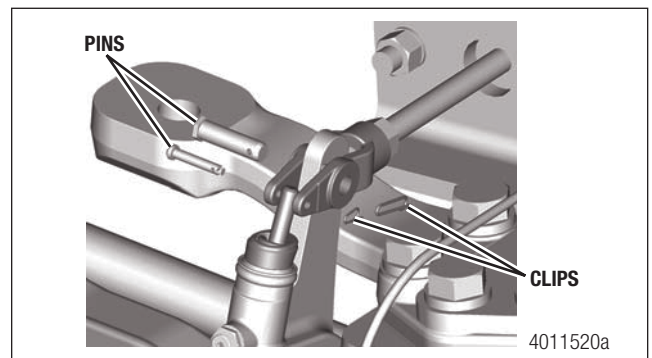

Figure 5.17
2. Remove the pins that engage the push rod yoke and the slack adjuster. Figure 5.17.